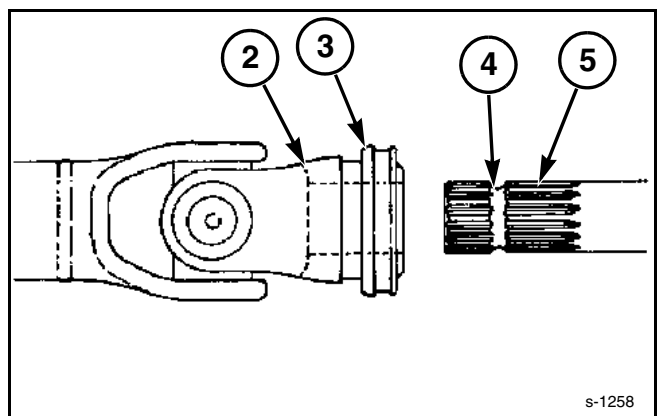

FIG. 57
FIG. 57: Release the locking ring (3) on the end of the PTO drive shaft by pulling the ring onto the coupling and then slide the coupling (2) over the shaft (5) on the feeder housing. Release the locking ring and pull back and forth on the shaft to make sure that the coupling is securely locked in the annular groove (4) on the feeder housing shaft.